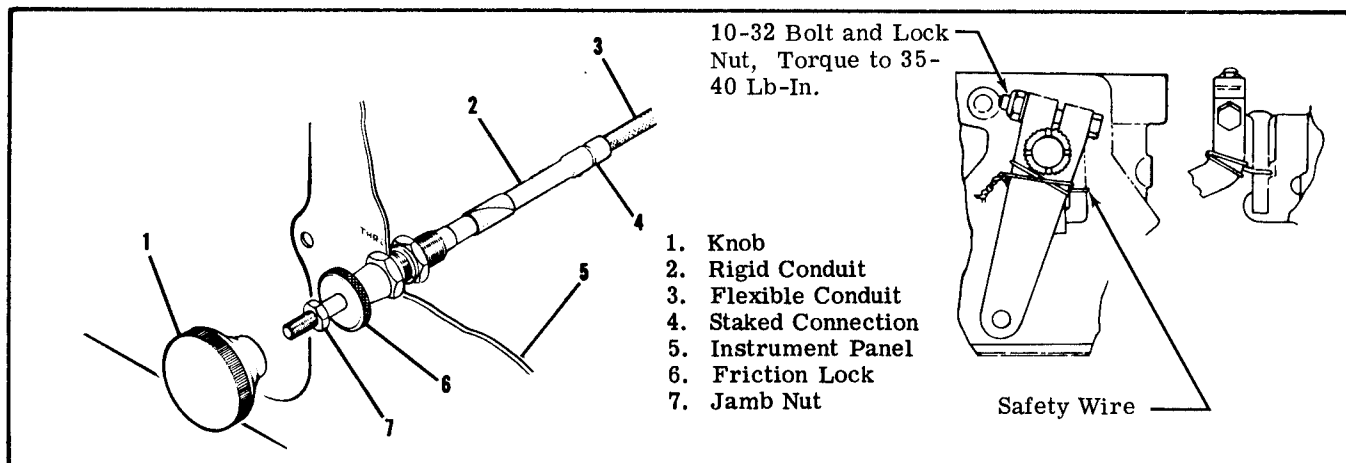

Figure 11-8. Throttle Control and Throttle Arm to Idle Stop Attachment
Before rigging throttle control shown in figure 11-8, check that staked connection (4) between rigid conduit (2) and flexible conduit (3) is secure. If any indication of looseness or breakage is apparent, replace the throttle control before continuing with the rigging procedure.
- a. Pull throttle control out (idle position) and remove throttle control knob (1).
- b. Screw jam nut (7) all the way down (clockwise) and install throttle knob. Screw the knob securely against the jam nut. Do not back jam nut out. This